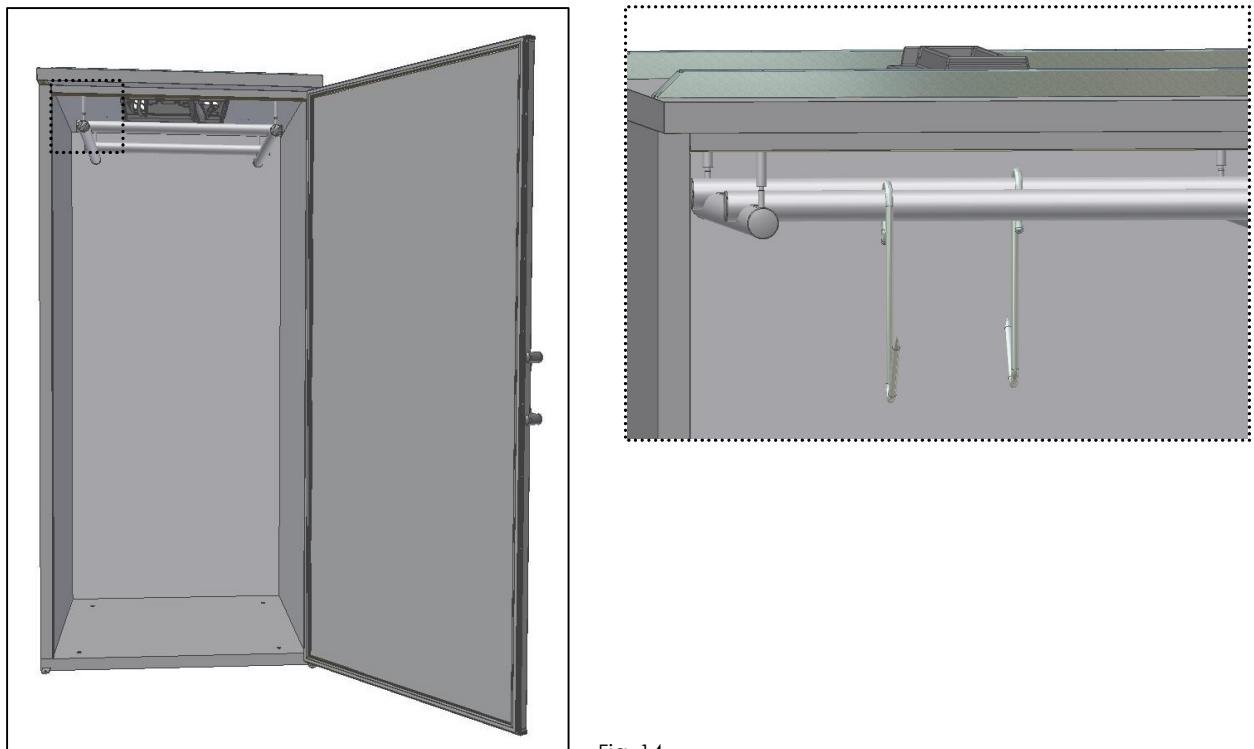

Fig. 14
- Fix **the cross pipes** into the side pipes and place the hooks where you will hang the wild game (Fig. 14);